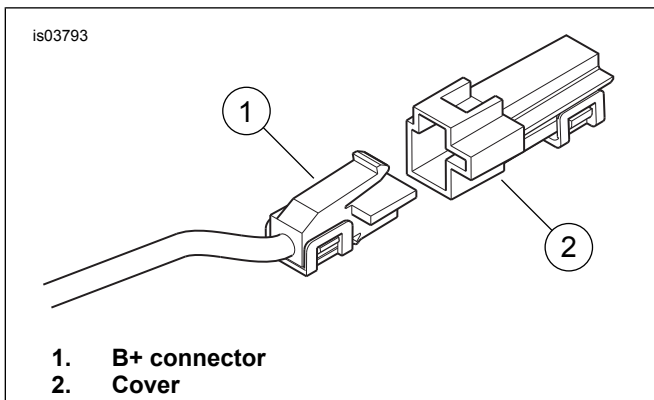
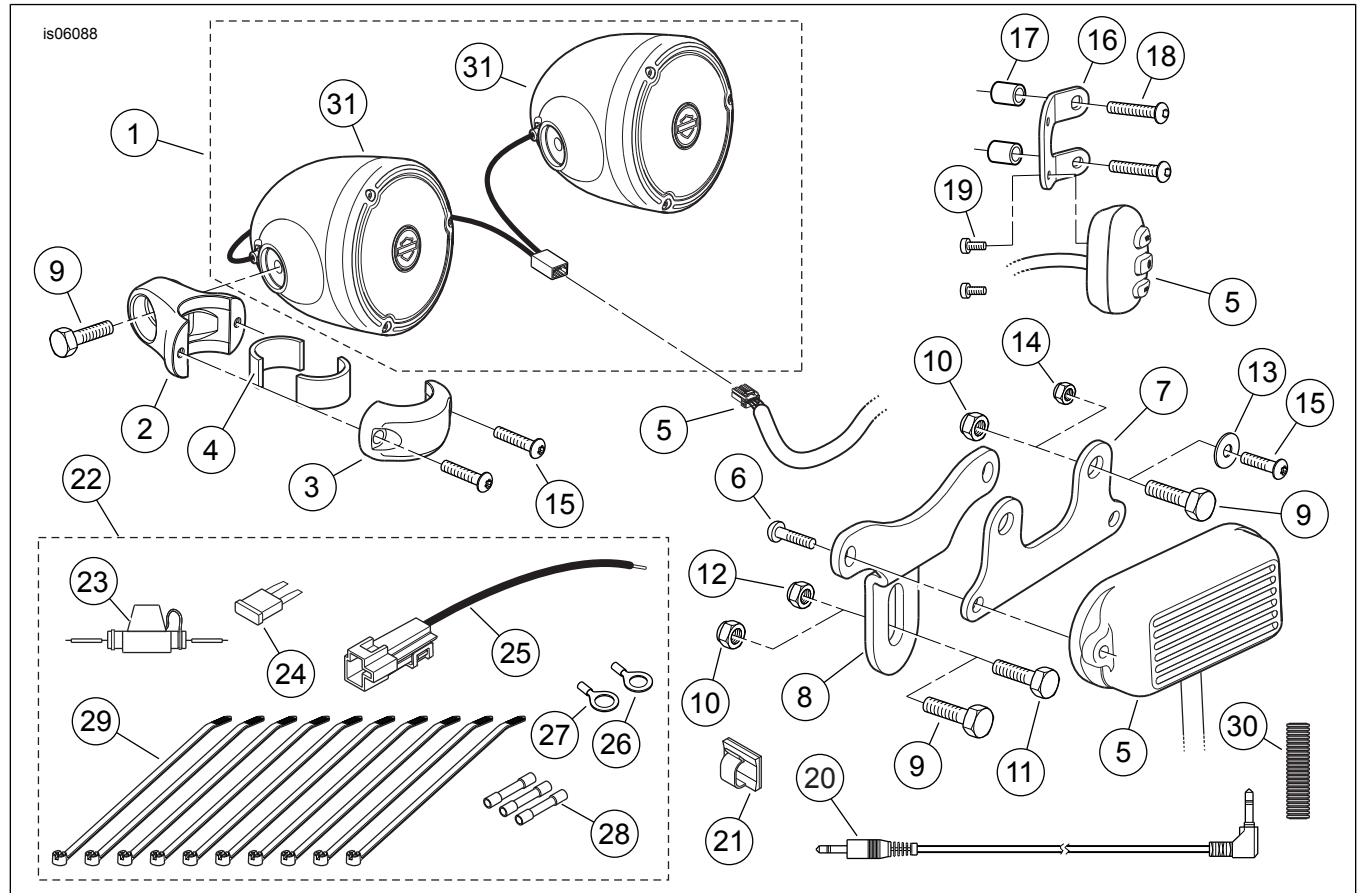

Figure 4. B+ Connector
Figure 5. Service Parts, Handlebar-Mounted Speaker and Amplifier Kits
1. See Figure 5. Get the electrical hardware pack (22) from the kit. Select the in-line fuse holder (23) and one blue sealed splice connector (28) from the hardware pack.
4. Select the free end of the **red** wire in the wire harness assembly. Get two blue sealed splice connectors (28) and the 12V adapter wire (25) from the hardware pack. Splice the in-line fuse holder to the red wire per the instructions in the service manual. Splice the adapter wire to the opposite end of the in-line fuse holder.
5. See Figure 4. Locate the B+ (battery positive) connector (1) on the main electrical harness under the seat (a red wire with an unused gray connector). Remove the cover (2) from the B+ connector. Mate the **red** power wire connector on the wire harness assembly to the B+ connector.
10. Coil excess wire under the fuel tank, inside the nacelle or under the handlebar clamp where it will not interfere with steering function. Install the 5A fuse (24) in the in-line fuse holder on the red wire.
13. See Figure 5. The 3.5 mm connector from the hand control can be secured to the handlebar with cable straps or secured to the upper triple clamp or nacelle with the adhesive-backed clip (21) from the kit. If using the clip: